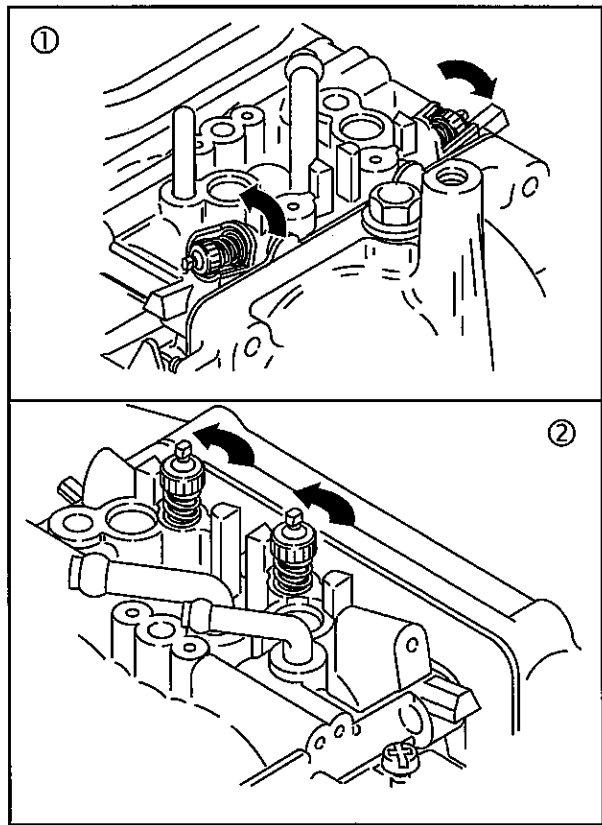

Fig. 18
The OHV twin cylinder engine carburetor fuel mixture adjustment procedure is unique. Perform adjustments exactly in the sequence shown. Horizontal crankshaft engines (1) and vertical crankshaft engines (2) are shown in **Fig. 18**.
1. Turn idle mixture screw for #1 cylinder **CLOCKWISE** until it just seats. **DO NOT FORCE**, **Fig. 18**.